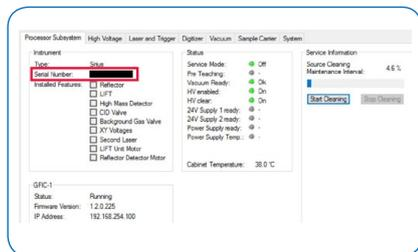

Figure 6.1 Location of the instrument serial number
- In the new window under “Processor Subsystem” the serial number can be found (see Figure 6.1)